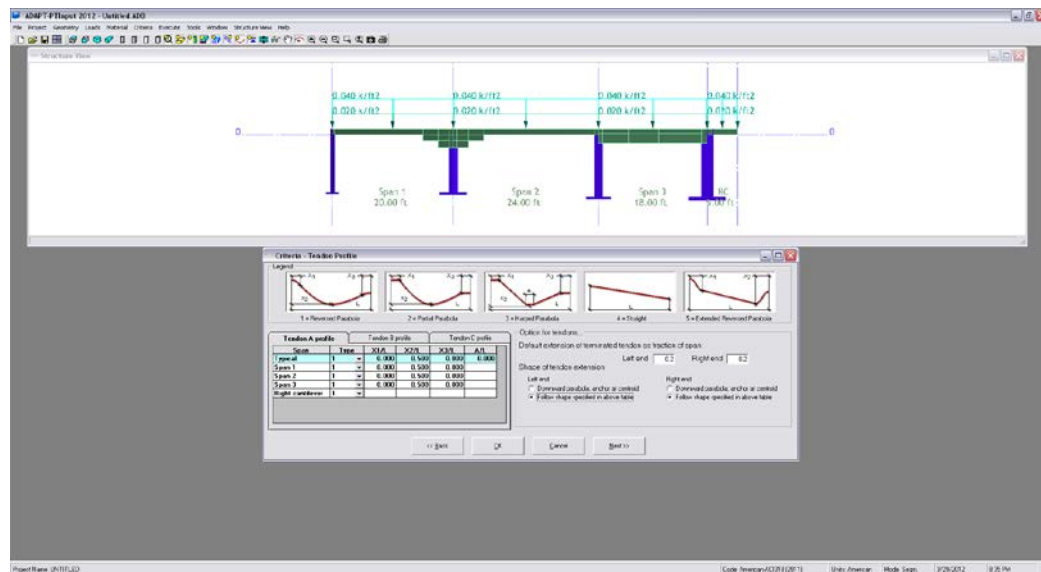

FIGURE 5.3-25
5.3.5.4 Specify The Tendon Profiles (Fig. 5.3-25)